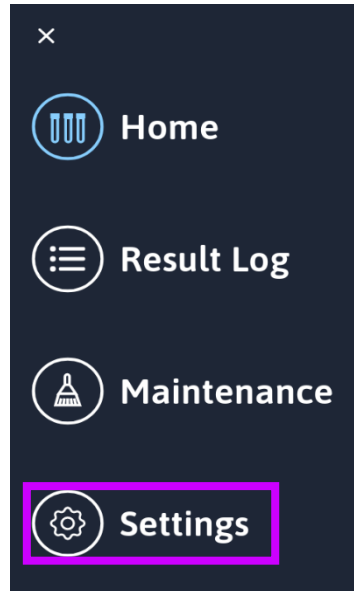

Figure 5
- Press the Settings button in the “Options” screen as highlighted in pink in Figure 5.